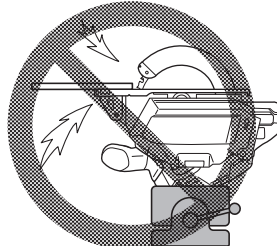

Fig. 4
5. Never attempt to saw with the metal cutting saw held upside down in a vise. This is extremely dangerous and can lead to serious accidents. (Fig. 4)